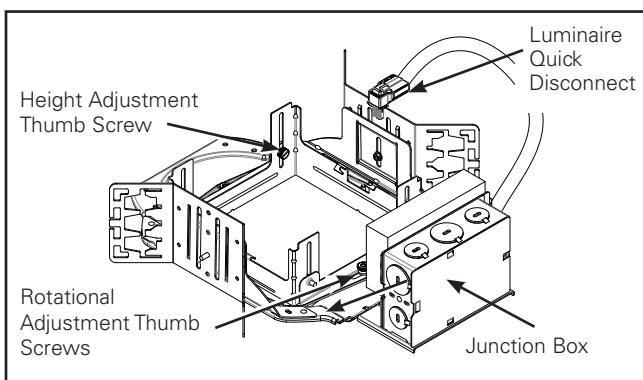
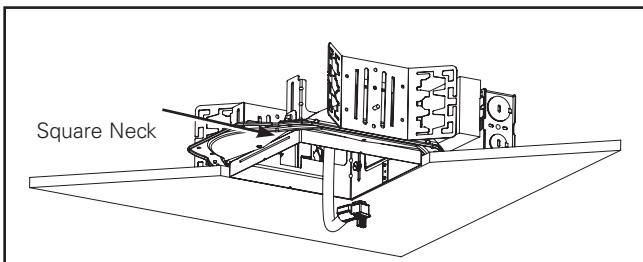

Figure 3
Figure 4
2. Adjust hanger adjustment screws (Figure 3) so bottom of square neck is flush with finished ceiling line. (Figure 4)
3. (Height): Square neck can also be adjusted by loosening the 3 thumbscrews and adjusting such that the neck is flush with the ceiling. Once desired height is achieved, tighten thumb screws (Figure 3).
4. (Rotation): If rotation of the square neck is required, loosen 2 thumbscrews. Rotate the square neck to the desired position. Tighten thumbscrews upon completion (Figure 3).